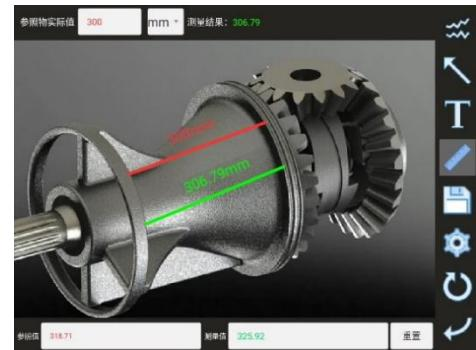

Figure 9-32
Touch the ruler icon to enter the mode of reference measurement (see Figure 9-32)
line in the middle of Figure 9-32);
(2) Measure the required position (the green line in the middle of Figure 9-32), and the actual value required for the measurement can be obtained;
(3) Finally, enter the reference real value;
(4) Click Reset to re-measure.